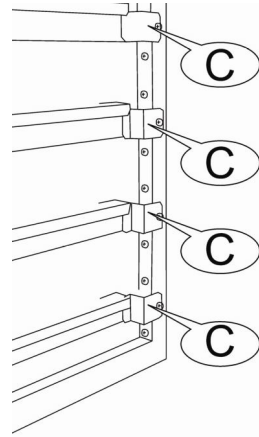

Figure-7 Battery tray fixation parts
- Remove fixation elements shown in Figure-7 (C) that anchor battery tray to device chassis.